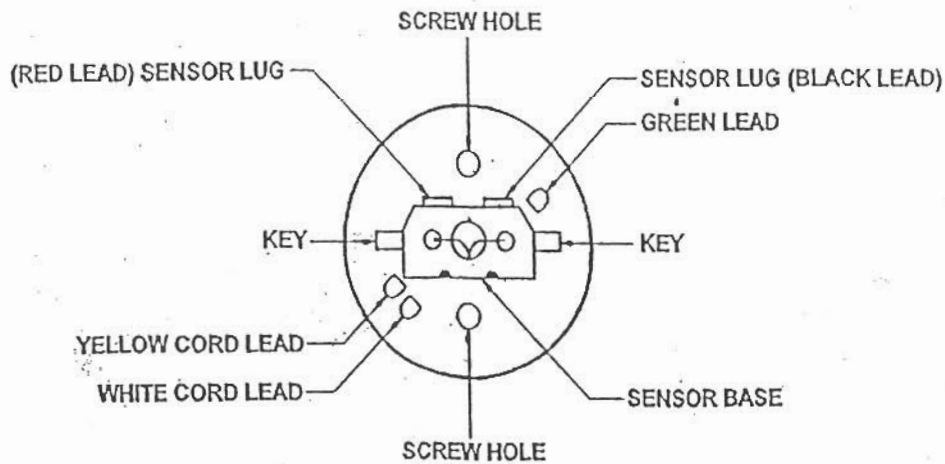

FIGURE 4
4. Reassemble connectors on yellow, black and green leads to handle insulator (see Figure 4).
5. Solder red and black lead to sensor, observe correct sensor position (see Figure 4).